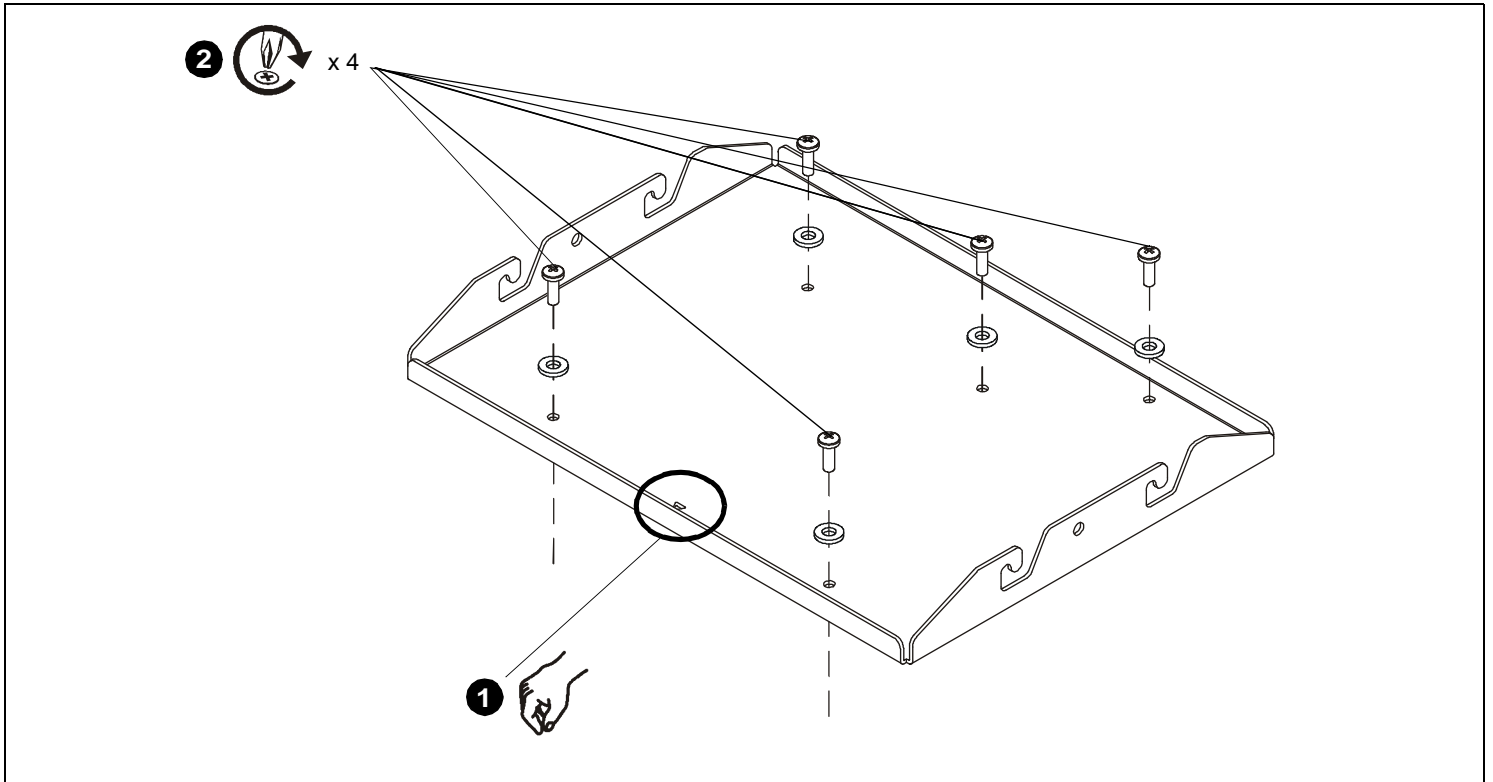

Figure 1
2. Lower custom HB bracket onto bottom of projector. Ensure that triangle in bracket points toward front of projector. (See Figure 1)
3. Attach HB bracket to projector using five M6 x 10mm Phillips pan head screws through five holes in the HB bracket. (See Figure 1)